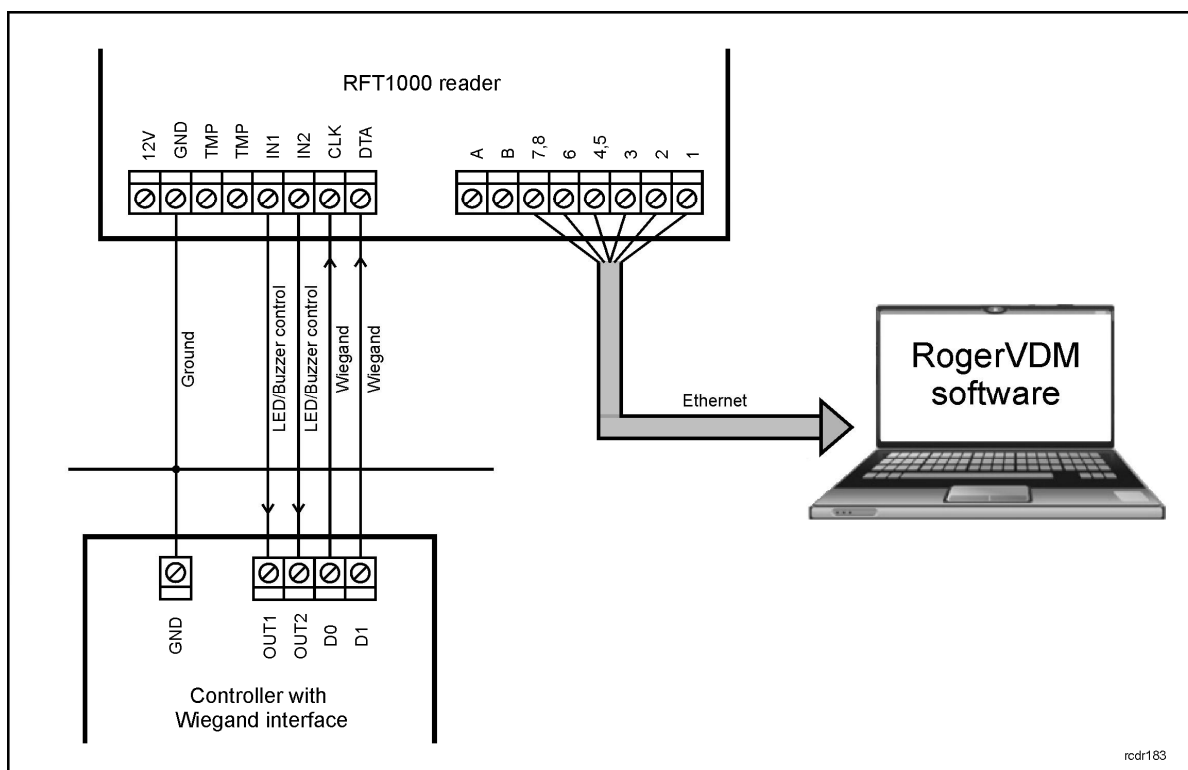
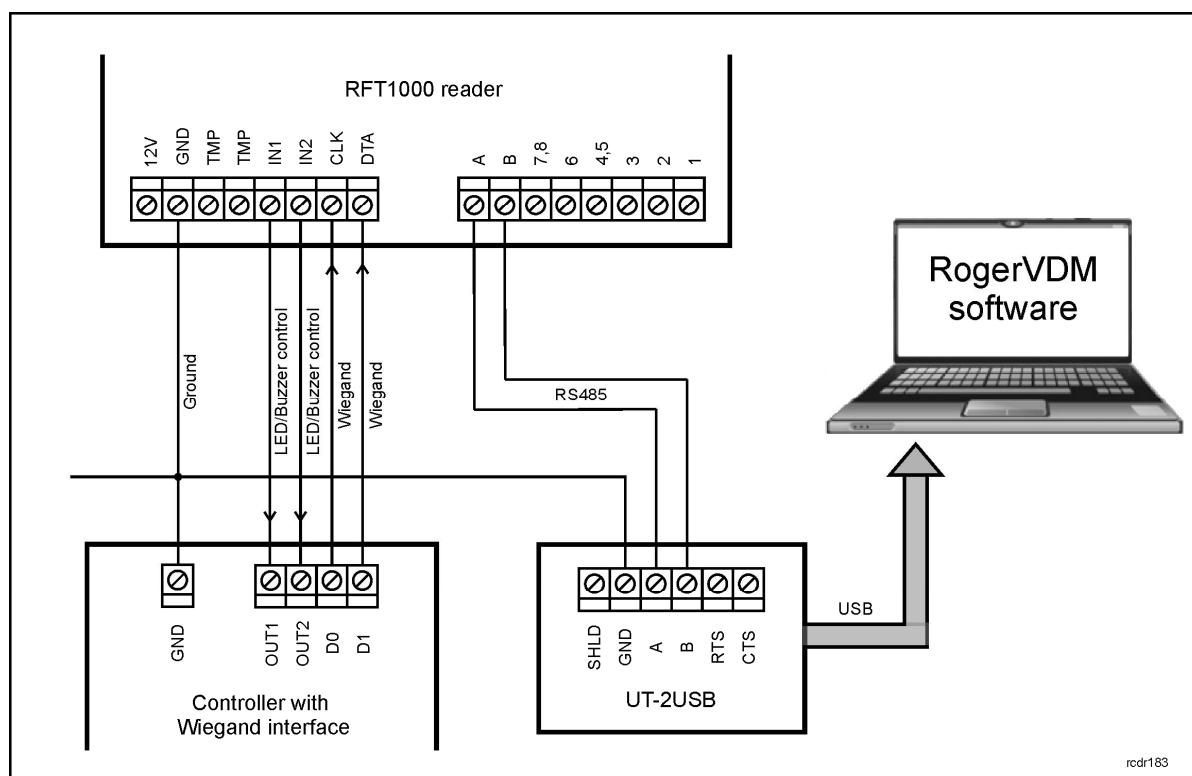

Fig. 2 Connection diagram for RFT1000 and master device (controller) - configuration through Ethernet port (recommended)
Fig. 3 Connection diagram for RFT1000 and master device (controller) - configuration through RS485 port
RFT1000 reader is equipped with three LED indicators on its front panel. These indicators are used for signalling current states of the reader. Particular LED indicators can be activated by means of reader's inputs. In such case, master device by its outputs connected to RFT1000 inputs (see fig. 2 or 3) can activate indicators as needed. Additionally it is possible to configure behaviour of reader's indicators in particular situations. More information on configuration of LED indicators is given in par. 4.3 Configuration of inputs and LED indicators
1. Connection of the reader to network through Ethernet port according to fig. 2. or through RS485 port according to fig. 3. By default, RFT1000 is configured for Ethernet communication.
3. Connection of the reader to master device (controller) by means of Wiegand interface according to fig. 2. Optionally, reader's inputs can be connected to master device outputs and configured.
RFT1000 reader can operate with all kinds of master devices if they are equipped with Wiegand interface. After proper connection in accordance with fig. 2, there must be executed configuration of connection both on RFT1000 side and master device side.
7). According to fig. 2, master device can control LED indicators and buzzer in the reader by means of input lines (IN1, IN2). Additionally it is also possible to switch Card Reader Mode by means of reader's input.